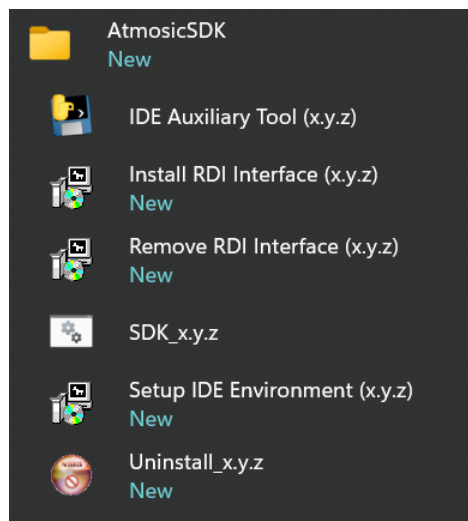

Figure 7 - SDK in Start Menu
- Figure 7 - SDK in Start Menu
The Installer will create a folder named AtmosicSDK in the Start Menu as shown in Figure 7 during the installation process.